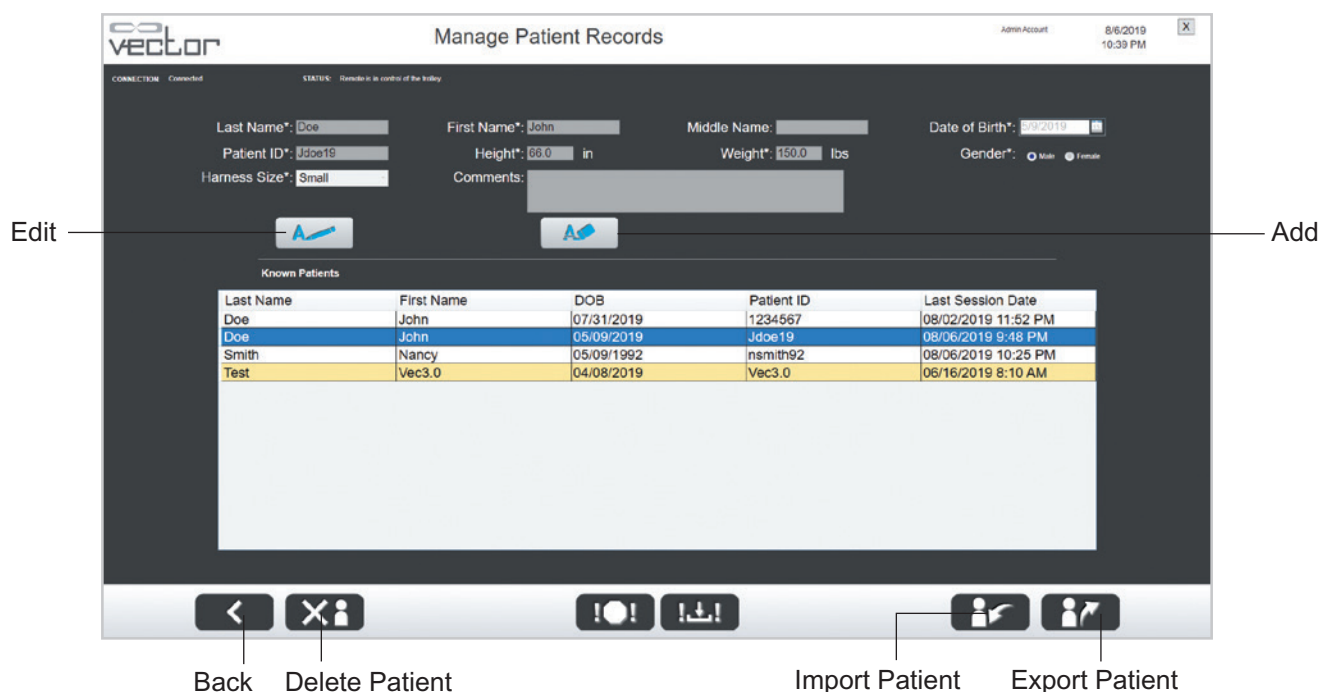

Figure 11-3: Manage Patient Records Screen
2. The Manage Patient Records screen will open. See Figure 11-3.
1. Select the desired patient from the Known Patients list and press the Edit button. See Figure 11-3.
1. Press the Add button. See Figure 11-3.
1. Select a patient from the Known Patients list and press the Delete Patient button. See Figure 11-3.
1. From the Manage Patient Records screen, press the Import Patient button. See Figure 11-3.
1. From the Manage Patient Records screen, press the Export Patient button. See Figure 11-3.
5. To return to the Admin Menu screen, press the Back button. See Figure 11-3.